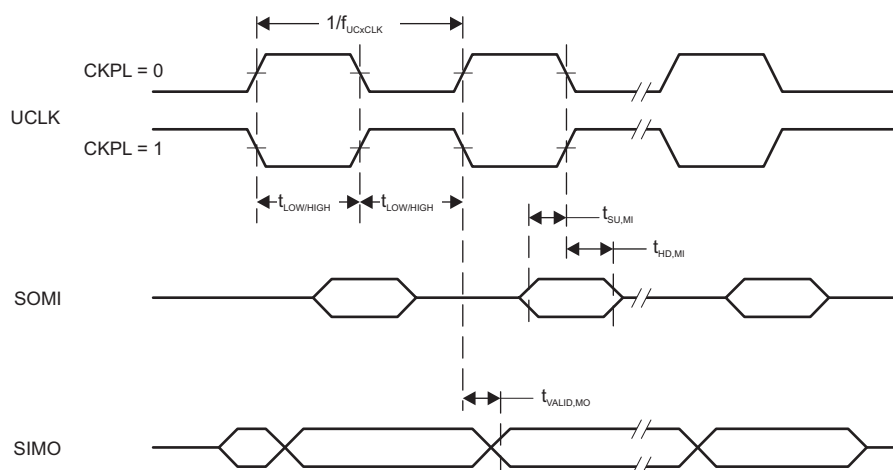
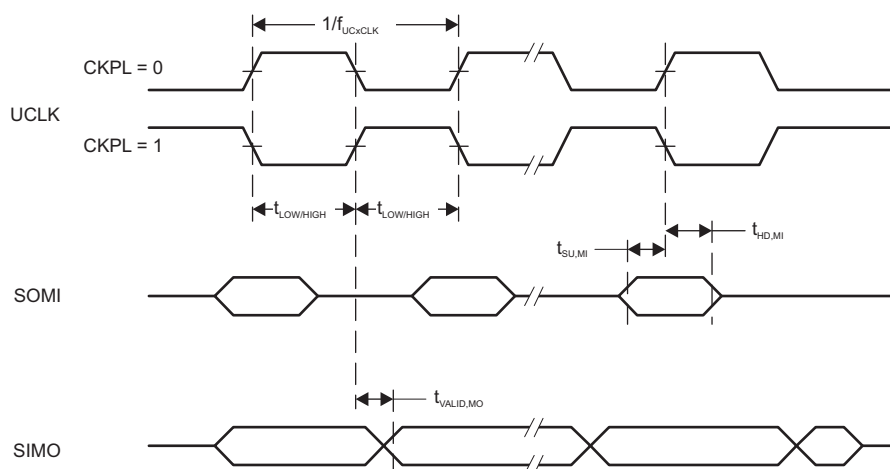

Figure 5-10. SPI Master Mode, CKPH = 0
Figure 5-11. SPI Master Mode, CKPH = 1
- (2) Specifies the time to drive the next valid data to the SIMO output after the output changing UCLK clock edge. See the timing diagrams in Figure 5-10 and Figure 5-11.
- (3) Specifies how long data on the SIMO output is valid after the output changing UCLK clock edge. Negative values indicate that the data on the SIMO output can become invalid before the output changing clock edge observed on UCLK. See the timing diagrams in Figure 5-10 and Figure 5-11.